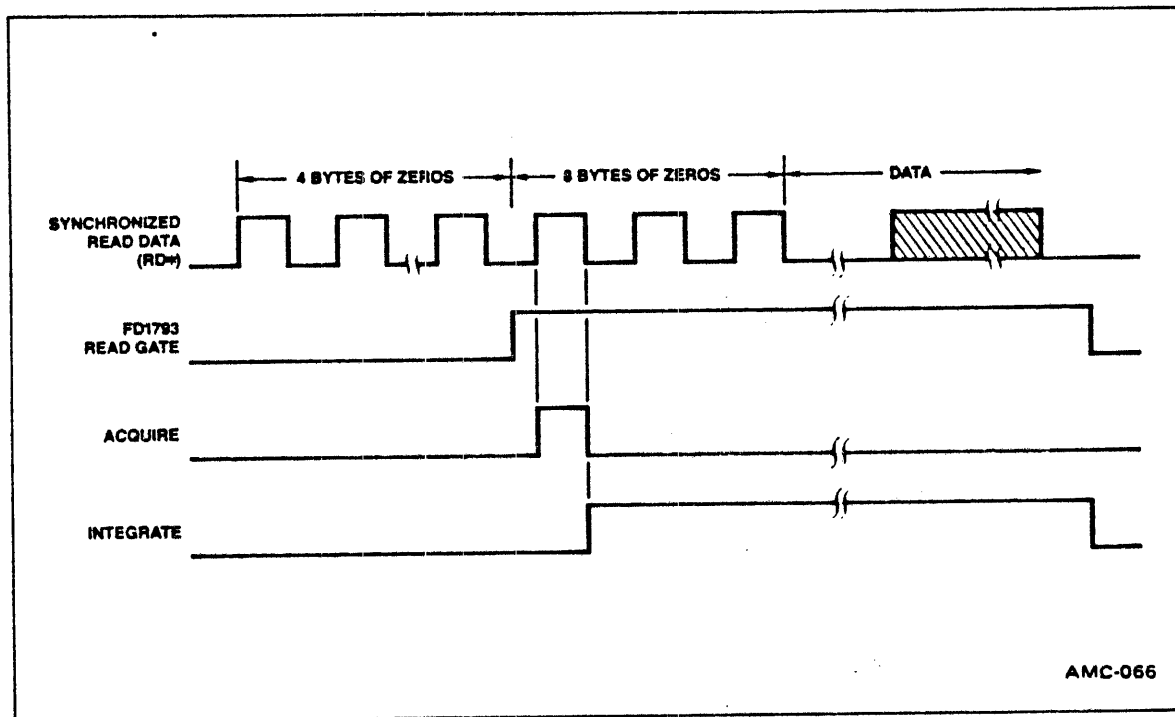

Figure 4-7. Phase Lock Loop Mode Timing
The phase lock loop operates in a data-lock mode (integrating phase-locked counter) or in a crystal-lock mode (counter separator). Read operation starts with the phase lock loop in crystal-lock mode. Crystal lock mode holds the VCO frequency to within 3 percent of nominal. Following four bytes of zeros from the SYNC field, the FD1793 generates the READ GATE signal. If the Am95/6120 is in double density mode and the U34 device is installed, the Acquire (ACQ\*) signal is generated. The period of one ACQ\* pulse is the same as one Read Data (RD) pulse. The INTEGRATE signal is generated at the trailing edge of ACQ\*, and is used to switch the phase lock loop to data-lock mode. The following 12 bytes of read data zeros are used to lock the loop phase to the read data signal. Timing is shown in figure 4-7.